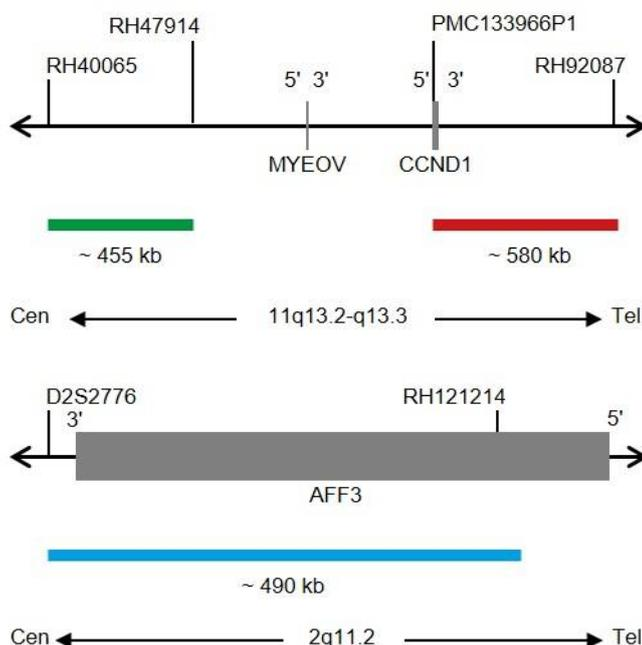

Fig. 1: Top: SPEC CCND1 Probe map; Bottom: SPEC 2q11 probe map (not to scale)
- ZyGreen (excitation 503 nm/emission 528 nm) labeled polynucleotides (~10 ng/μl), which target sequences mapping in 11q13.2-q13.3* (chr11:68,249,010-68,705,283) proximal to CCND1 breakpoint region. (see Fig. 1).
- ZyRed (excitation at 580 nm/emission 599 nm) labeled polynucleotides (~4.5 ng/μl), which target sequences mapping in 11q13.3* (chr11:69,453,301-70,031,240) distal to the CCND1 breakpoint region. (see Fig. 1).
- ZyBlue (excitation at 418 nm/emission 467 nm) labeled polynucleotides (~37 ng/μl), which target sequences mapping in 2q11.2* (chr2:100,132,806-100,621,725) (see Fig. 1).